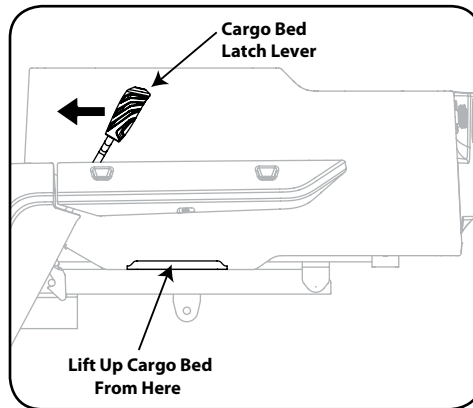

Figure 4-5
3. For light loads, unlatch cargo bed by pushing forward on the cargo bed latch lever. While holding the latch lever forward with one hand, lift the cargo bed with your other hand. See Figure 4-5.